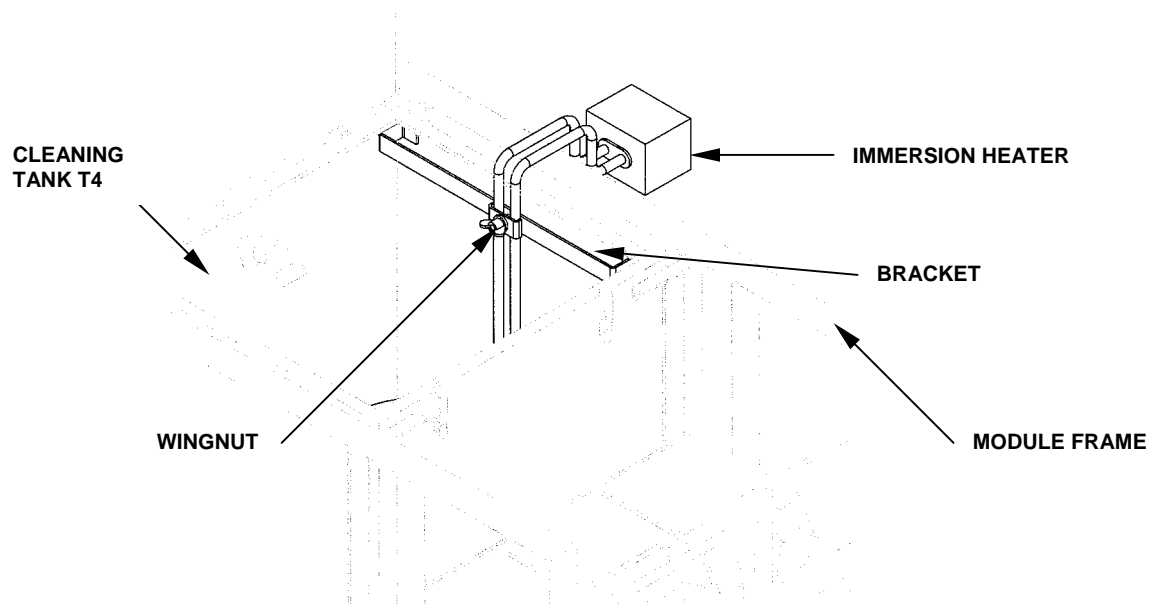

Figure 6. Immersion Heater with Bracket.
10. Hang heater over the module frame and into the cleaning tank. Use bracket to support the immersion heater on the side of tank. See Figure 6.